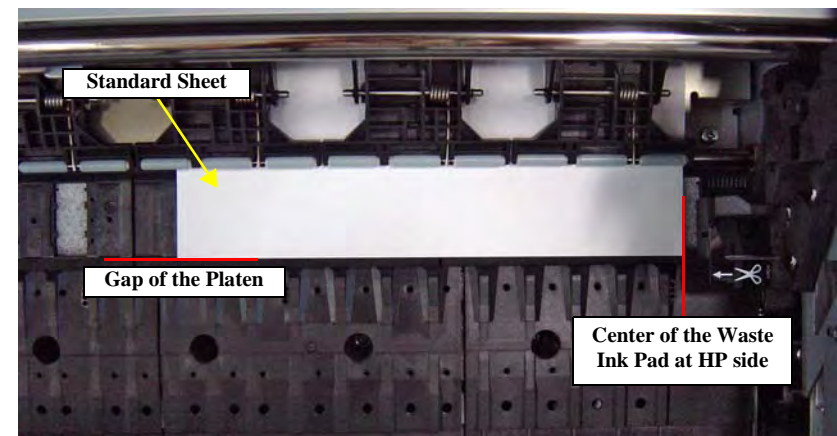

Figure 5-75. Position of the Standard Sheet
7. Insert the Standard Sheet to the position shown in Figure 5-75 and press [Paper Set] to lock the paper presser.